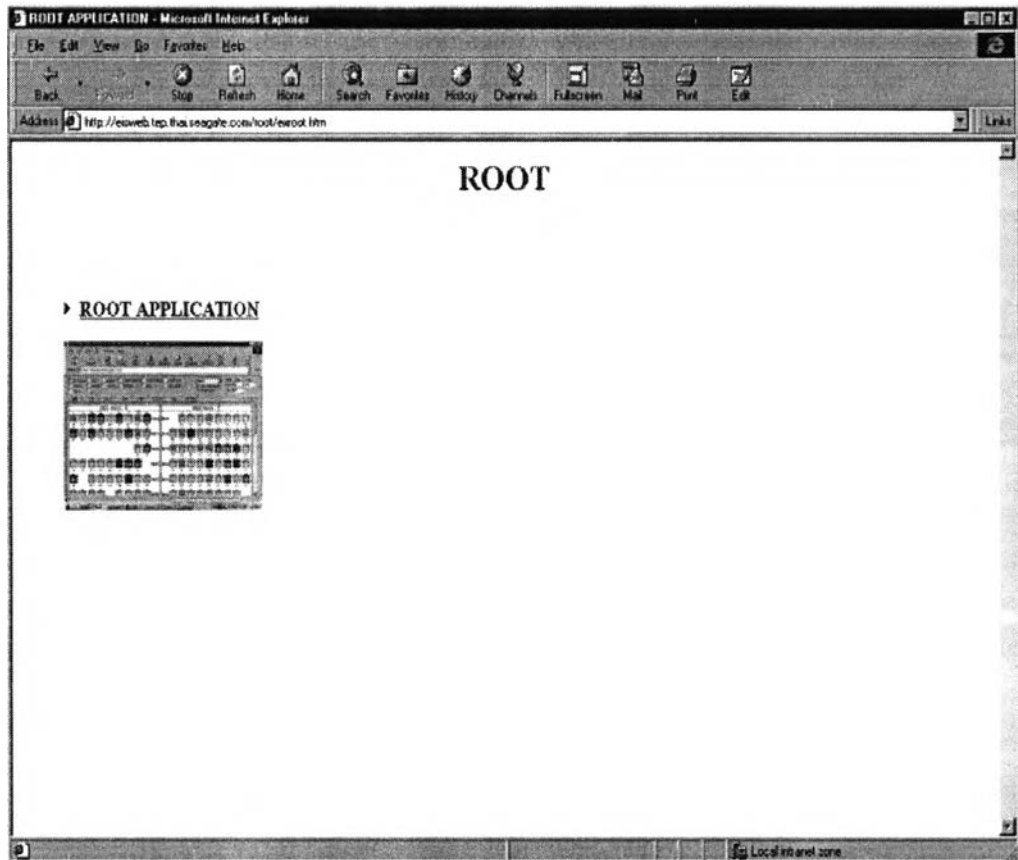

Figure 1 Main Menu of Diagnosing & Monitoring model
2. Select "ROOT" icon. The screen will be shown as below in figure 1.